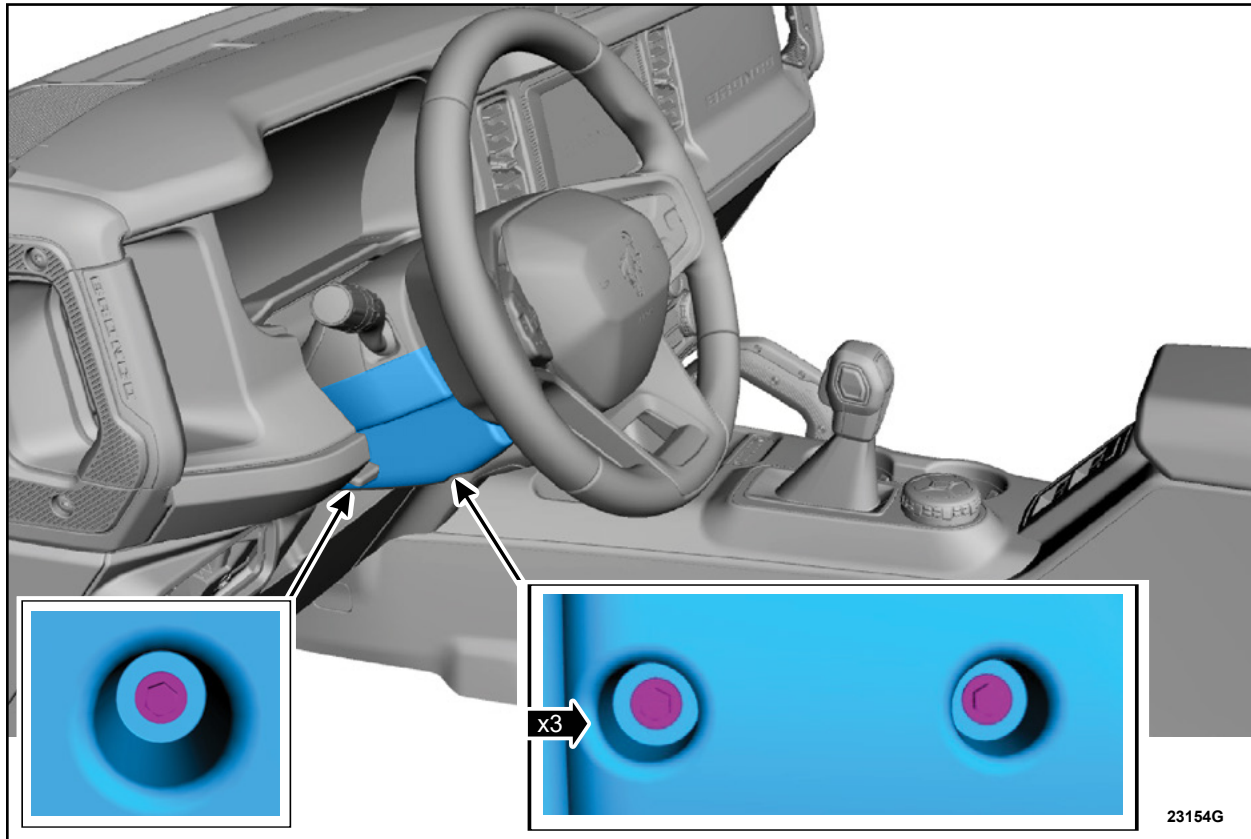

FIGURE 4
3. Remove the bolts and the lower steering column shroud. See Figure 4.